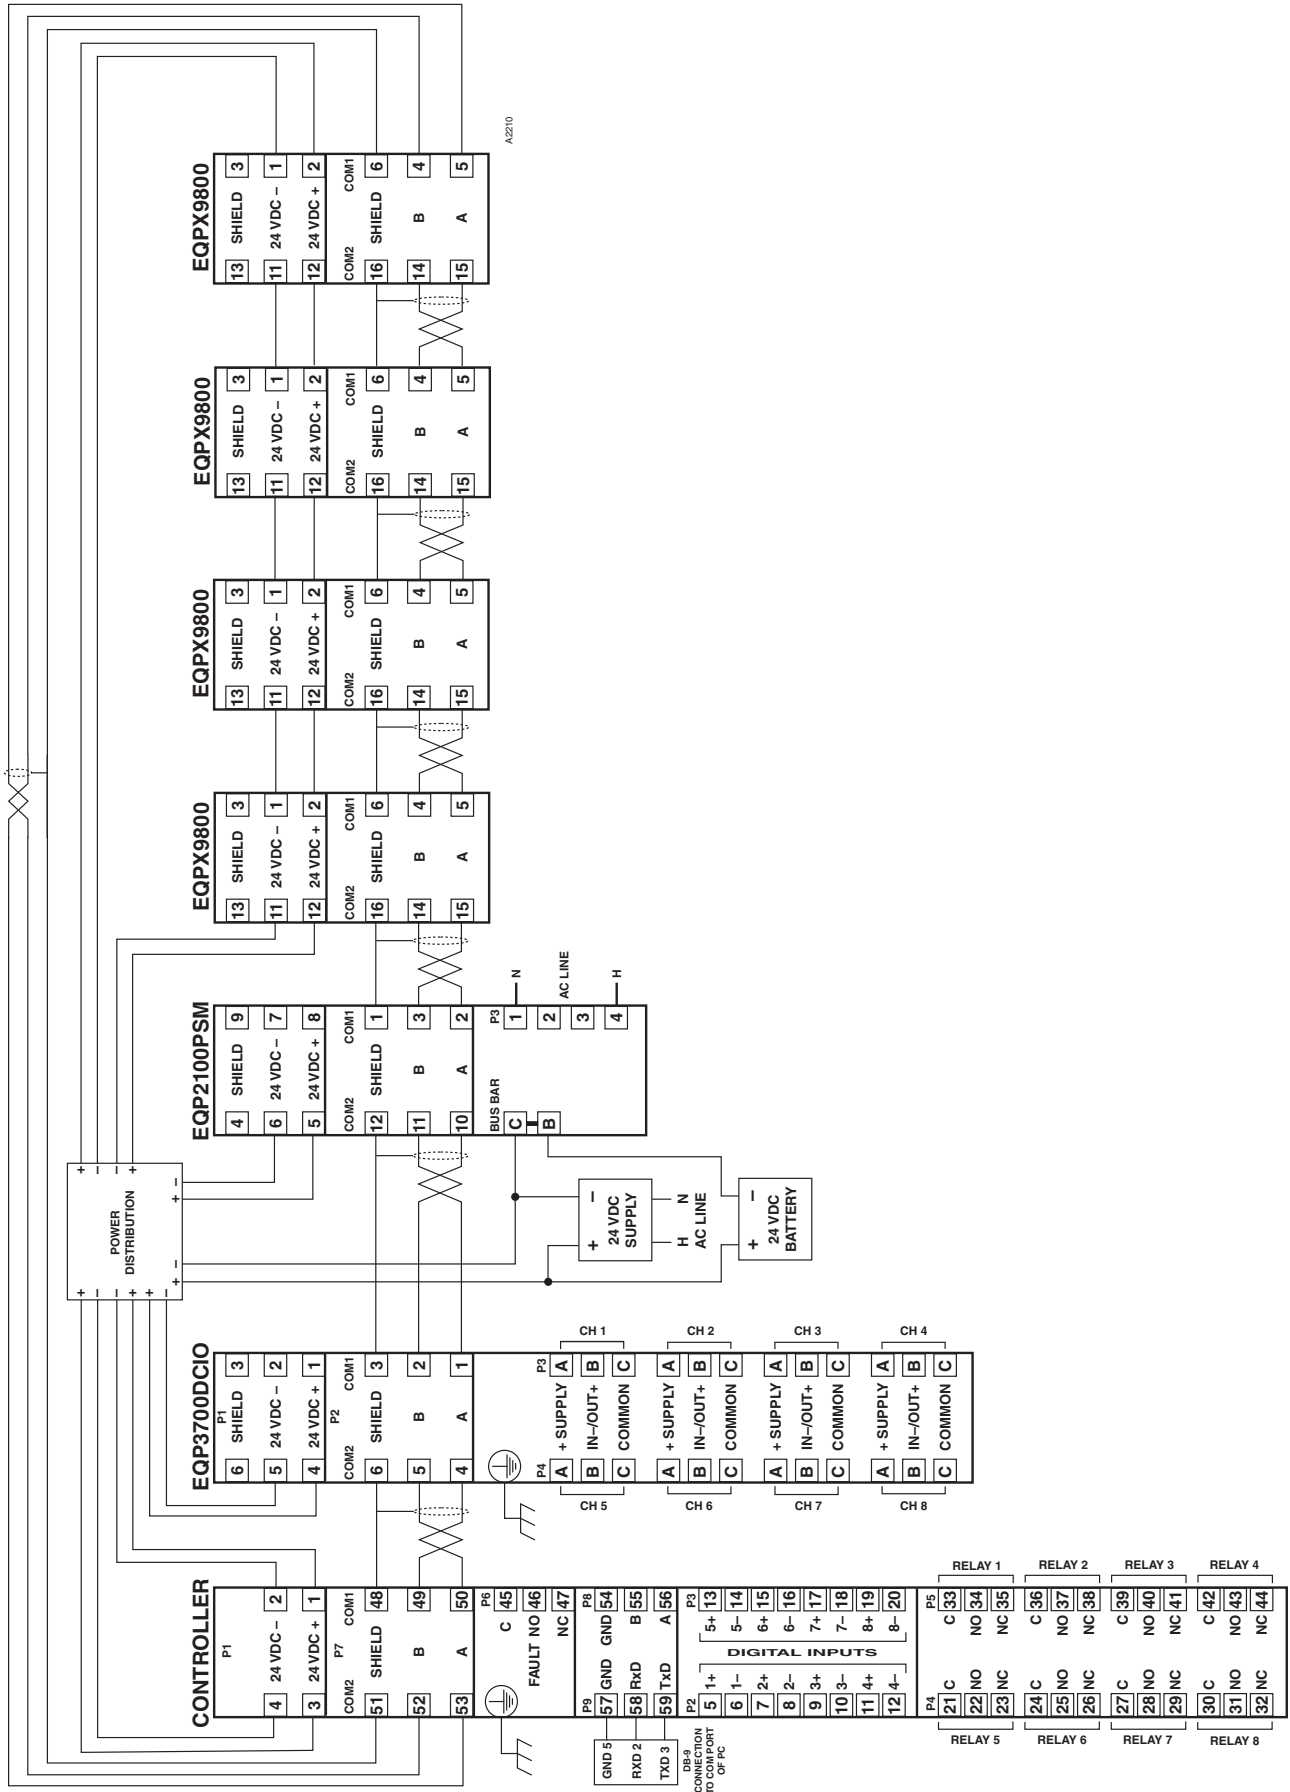

Figure 14—X9800 Terminal Block (EQP Model)
1. Connect external wires to the appropriate terminals inside the terminal compartment, shown in Figure 14. See Figure 15 for terminal identification.